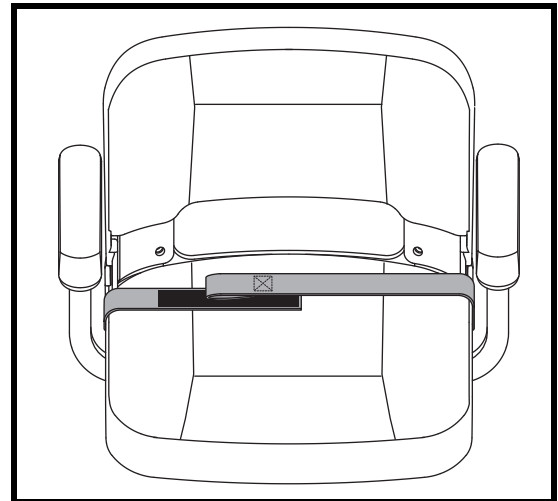

Figure 23. Positioning Belt - Reusable Hook and Loop Fastener Style
1. Align the two sides of the belt placing the looped-end side directly above the courser side (“hook”) of the opposite belt. Press firmly together to fasten. See figure 23.